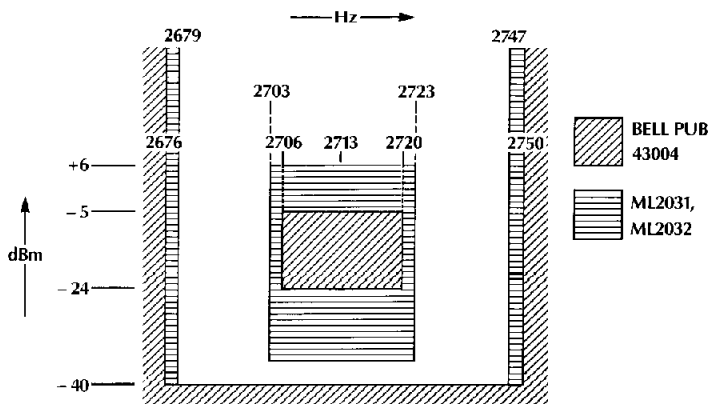

Figure 4. Tone Detector Template
1. 2713 Hz tone satisfies amplitude vs. frequency tone detector template shown in *Figure 4*.
The tone comparator compares the tone energy to a fixed reference value to determine if it meets the amplitude requirements for tone detection shown in *Figure 4*.